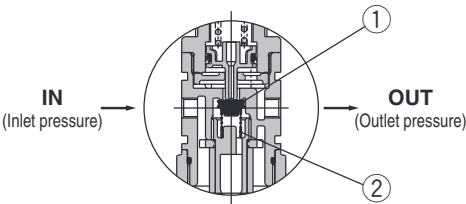
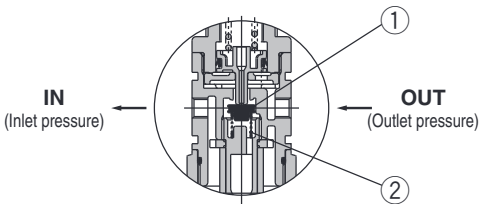

Figure 1
Figure 2
When the inlet pressure is higher than the regulating pressure, the check valve operates as a normal regulator (Figure 1). When the inlet pressure is shut off and exhausted, any inlet pressure applied to the valve ① will be lost. The force for seating the valve ① is the valve spring force ② only. When the valve ① is opened using the outlet force, the outlet pressure will be exhausted at the inlet side (Figure 2). When the set pressure is 0.15 MPa or less, the valve ① may not open due to the valve spring ② force.